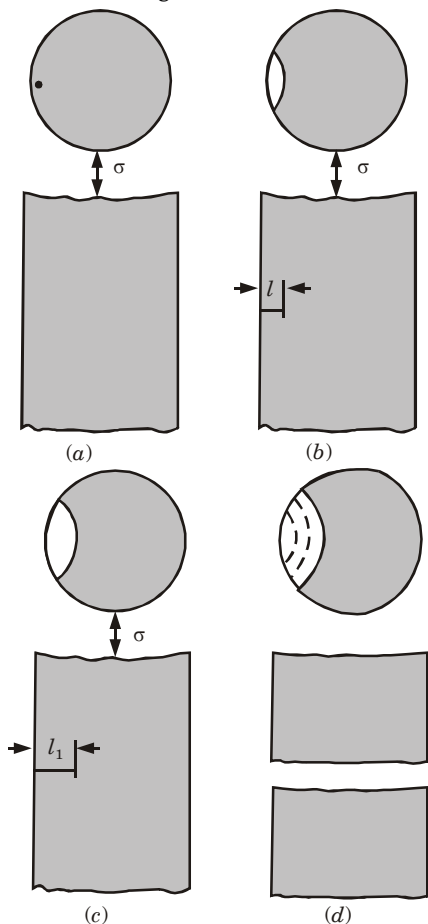

Fig. 1. Events leading to fatigue fracture.
Step 1 : Nucleation of Crack : Nucleation is caused when maximum stress $\sigma_{\max}$ fluctuates between tensile to compressive (within the elastic range) (Fig. 1(a)).
Step 2 : Crack Growth : Crack grows to a microscopic size on continued load cycles. (Fig. 1(b))
Step 3 : Crack Growing to Tiny Size : Crack becomes visible to the eyes after some times of continued load cycles. (Fig. 1(c))
Step 4 : Fracture : When crack reaches to some critical size, resulting in reduced effective cross-sectional area of the material, results in fracture. (Fig. 1(d))